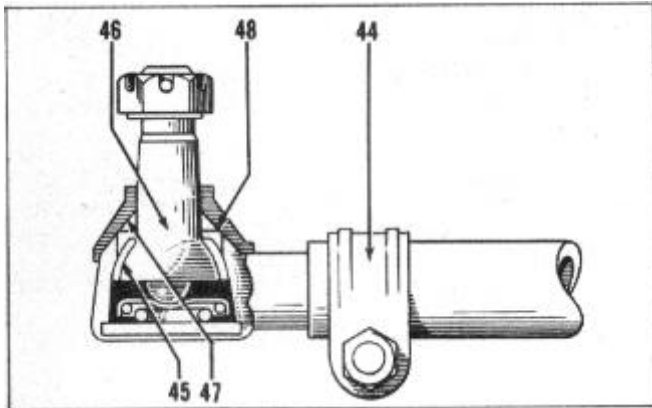

FIGURE 17
Tie rod ends are the self-adjusting type. The ground steel bearing (45), Figure 17, is located between the stud (46) (which is prevented from loosening or rattling by the tension